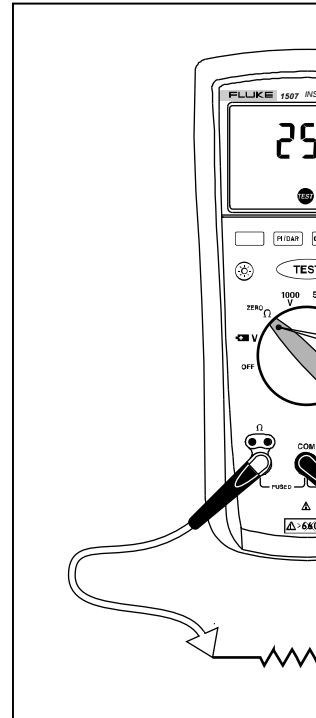

Figure 6. Measuring R
1. Insert test probes into the test points. See Figure 6.